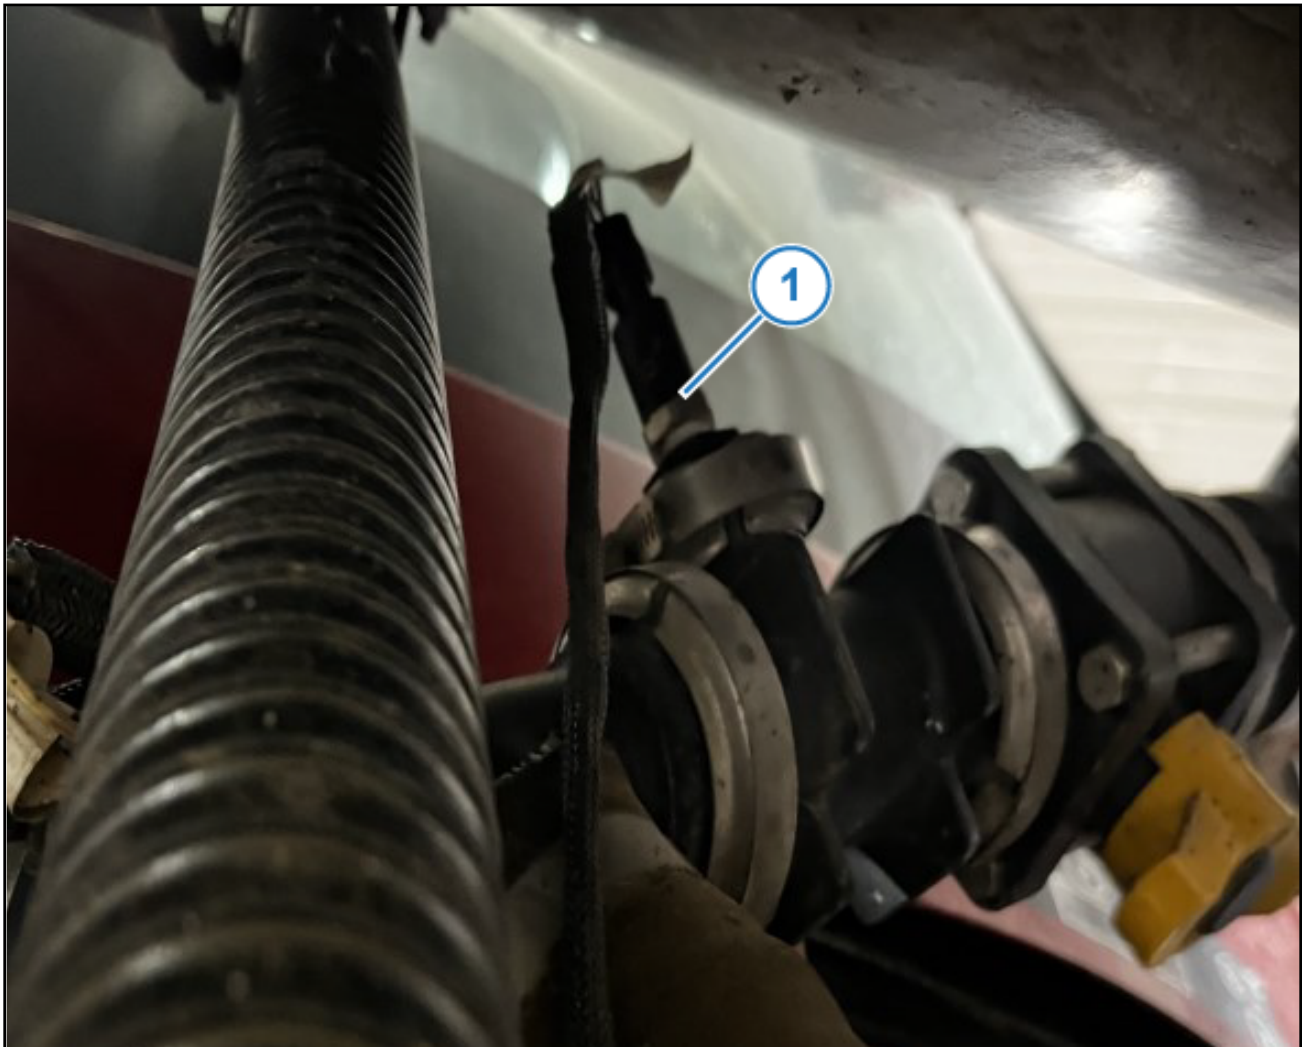

Figure 10: Sparge Sensor
19. Locate the sparge pressure sensor (Figure 10, Item 1) between the back of the cab and front of the tank.